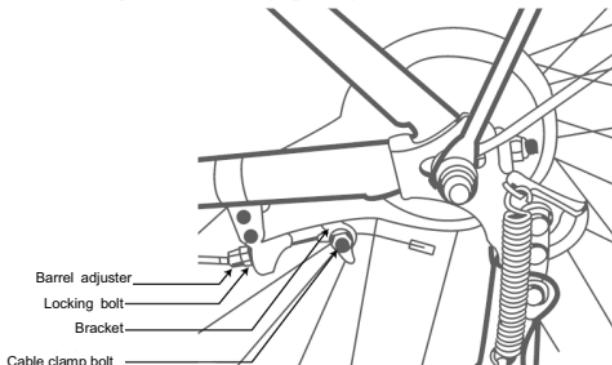

Figure 9
- c. Tighten cable clamp bolt securely and adjust barrel adjuster until there is enough brake force. (Figure 9)